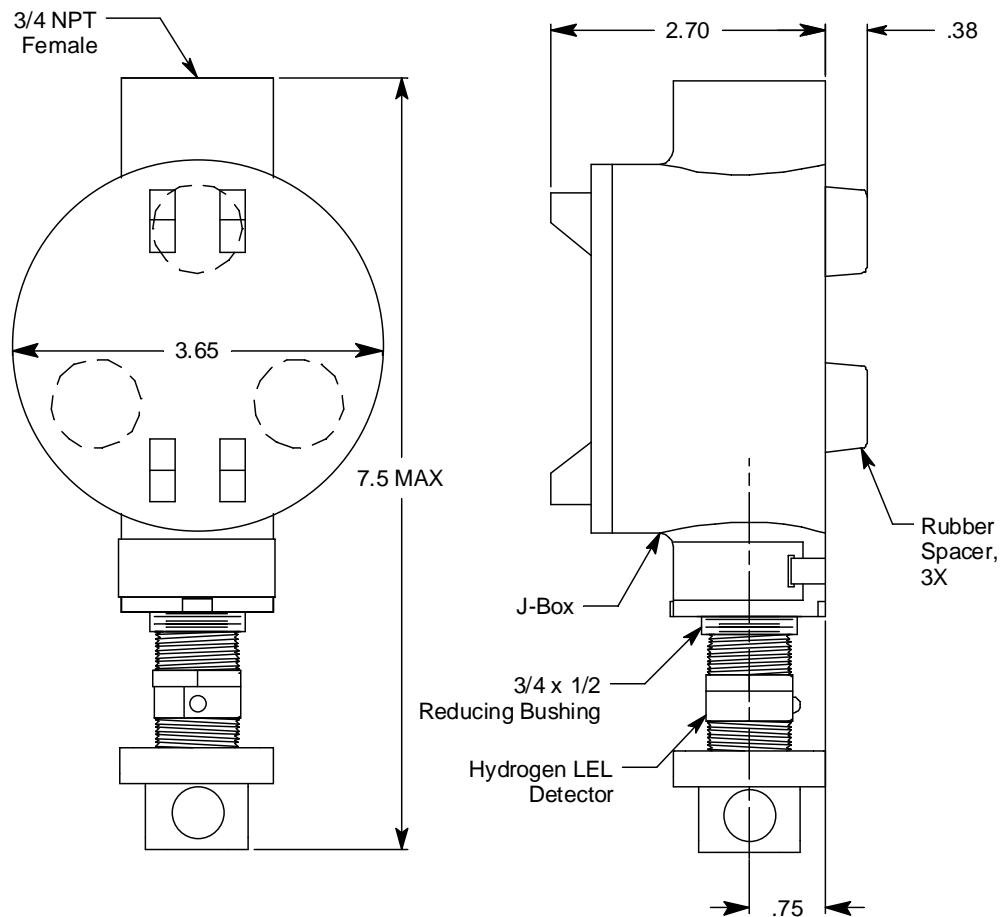

Figure 2: Mounting the Hydrogen Transmitter
2. At the monitoring site you select, hang or mount the junction box with the detector facing down (see Figure 2).